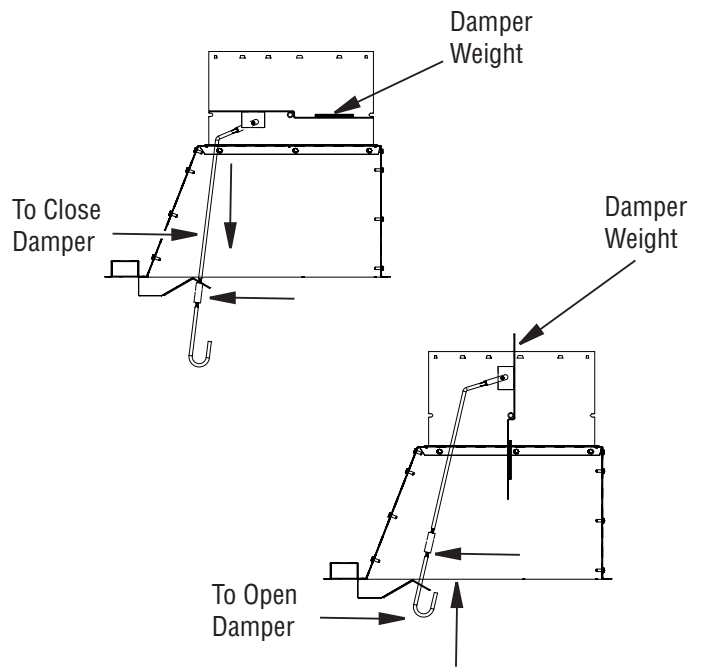

Figure 44 - Operating Damper Handle
1. To properly start a fire in a the fireplace, first check the operation of the flue damper (see “DAMPER CONTROL” and Figure 44, below).
The damper handle, which opens and closes the damper blade, is located in the upper front face of the fireplace. Pushing the handle forward and up through the keyway slot will free damper blade to automatically open. Pushing the handle forward and down will lock damper blade closed (see Figure 44). Damper must be locked in the full open position before operating fireplace (see Figure 44).